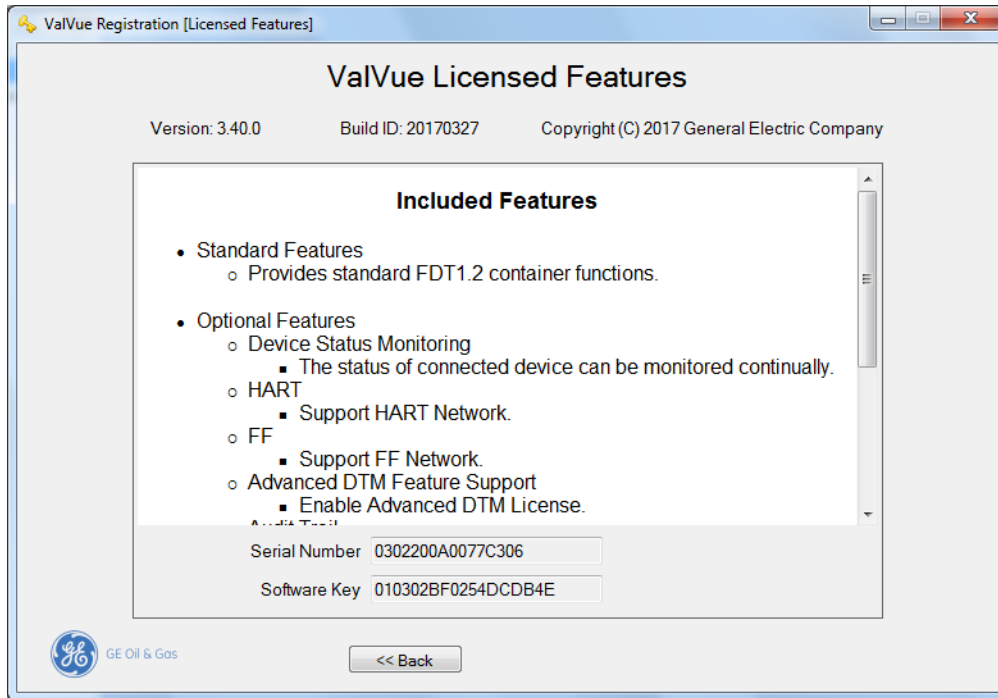

Figure 44 Included Features
2. Click  and Figure 44 appears.